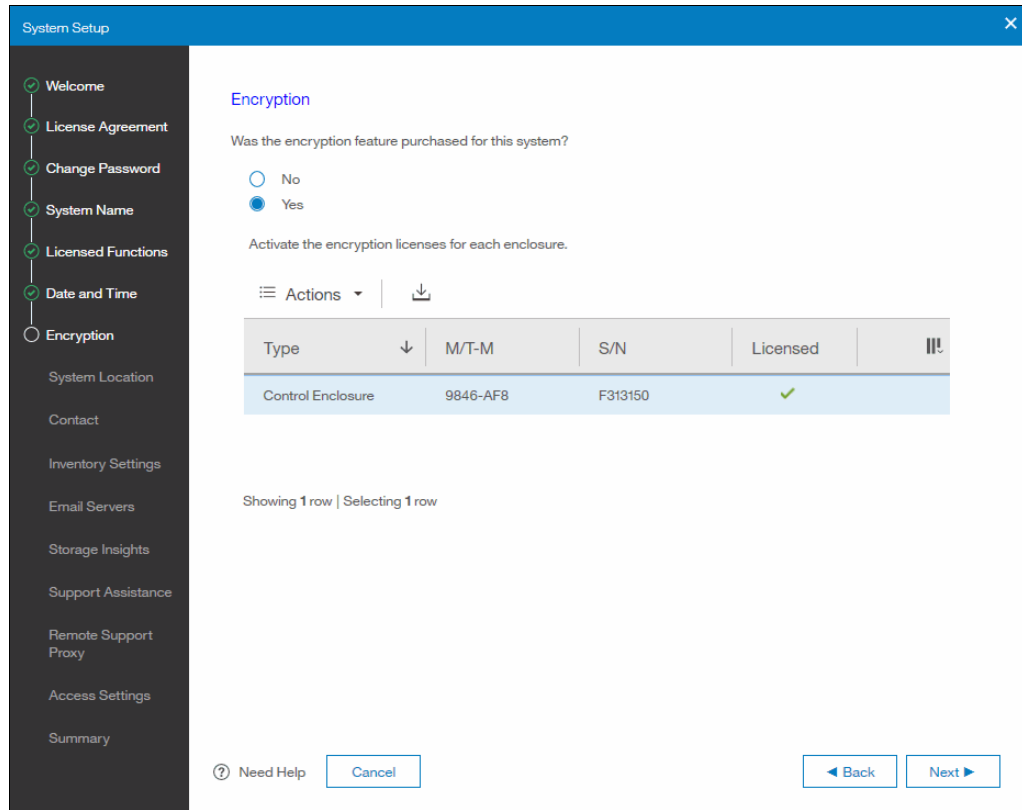

Figure 6-90 Encryption screen showing feature licensed
5. The system connects to IBM to verify the authorization code and retrieve the license key. After the license key has been retrieved, it is automatically applied. The Encryption screen is updated to indicate that the encryption feature is licensed (Figure 6-90).